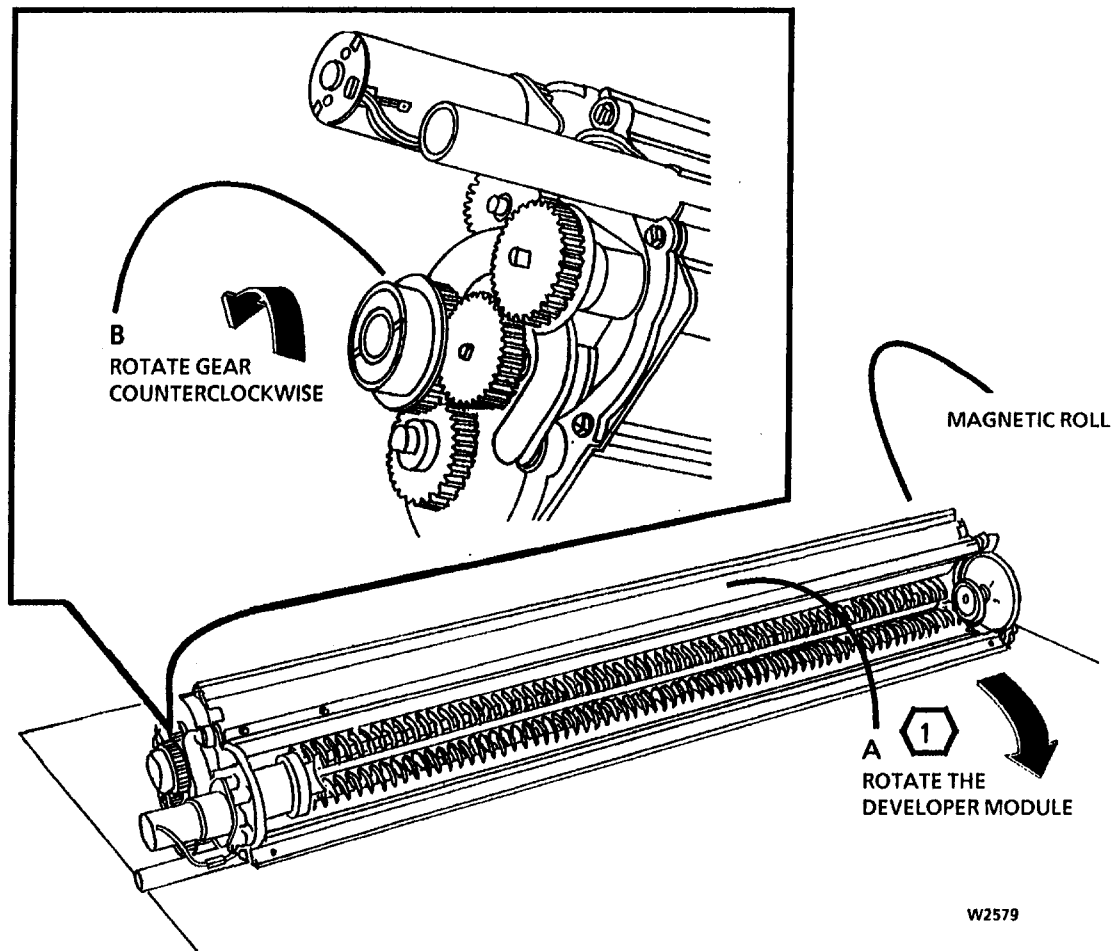

Figure 2. Dump the Developer Material
4. (Figure 2): Dump the Developer Material.